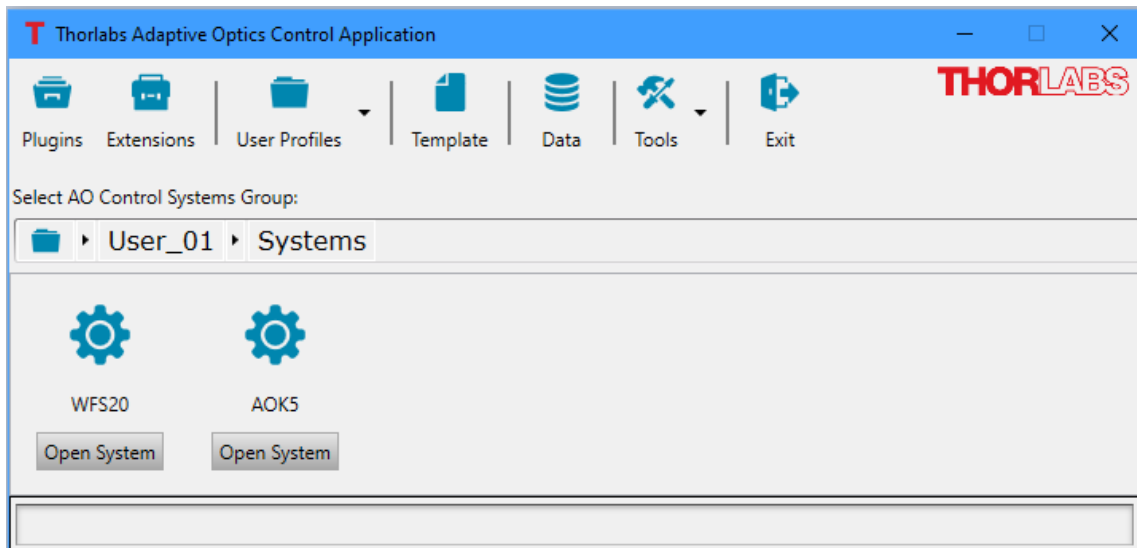

Figure 85 The Main control application window is showing a newly created system titled AOK5 within the User Profile User_01 and Control Systems Group Systems.
7. Clicking the **Ok** button in the User Profile window will cause the Main window to update. An icon will appear in the lower section of the window when the Control System Group within the User Profile within which the system was created is selected. See Figure 85.